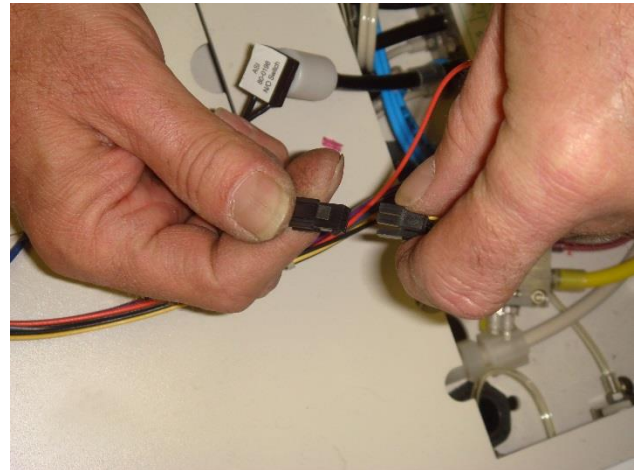

Fig. 3
6. Disconnect the Molex® connectors on the wiring harness by pressing the tabs on the connectors and pulling apart. (Fig. 3)